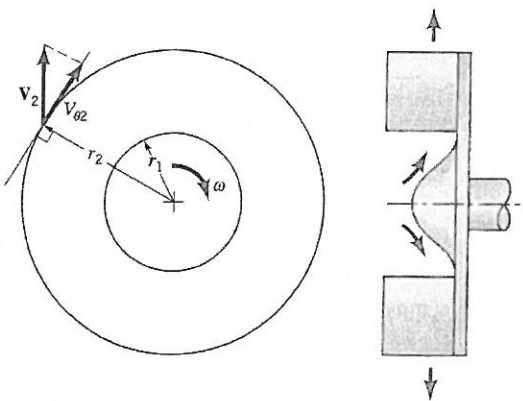

Figure P5.86
5.86 An incompressible fluid flows outward through a blower as indicated in Fig. P5.86. The shaft torque involved, T_{shaft} , is estimated with the following relationship: